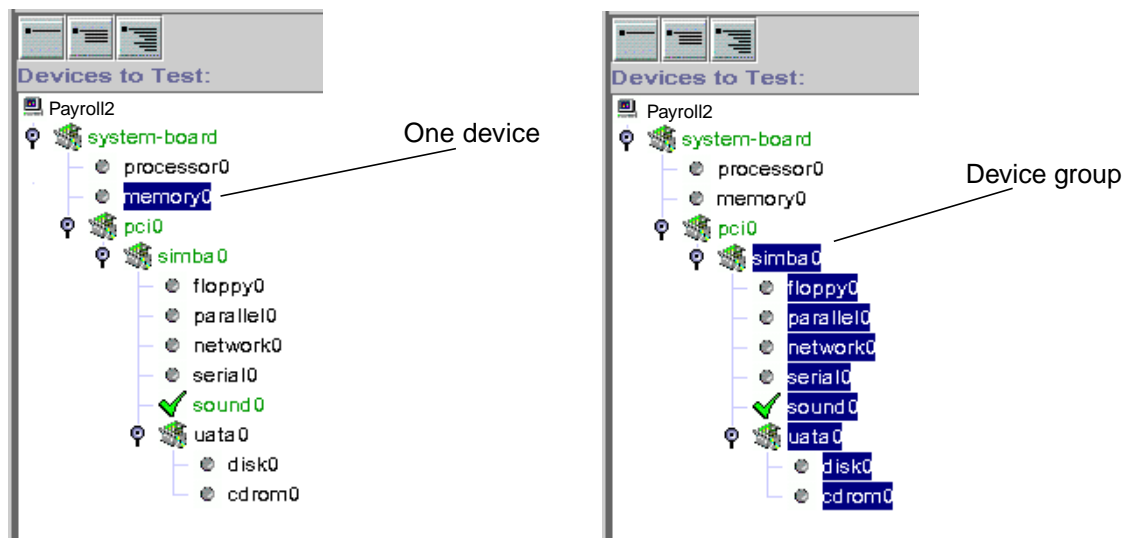

FIGURE 3-2 Selecting a Device or a Device Group
2. Click on the device (or device group) that you want to test (FIGURE 3-2).
The device is highlighted as shown in FIGURE 3-2.
You can select individual devices, entire groups of devices, or the top level device (host) for testing by a single click at the appropriate level (FIGURE 3-2).